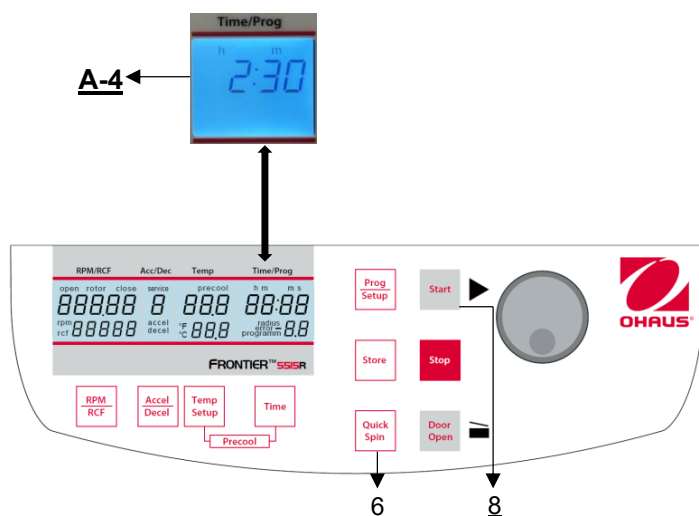

Figure 26
You can start the centrifuge either with the **"Start"** key (8) or the **"Quick Spin"** key (6) (see **Figure 26**). By the **"Start"** key (8) you can start stored runs or runs with manually pre-selected parameters. When the respective pre-selected running time has ended the centrifuge will stop automatically. By the **"Quick Spin"** key (6) you can start runs, which will last just a few seconds.